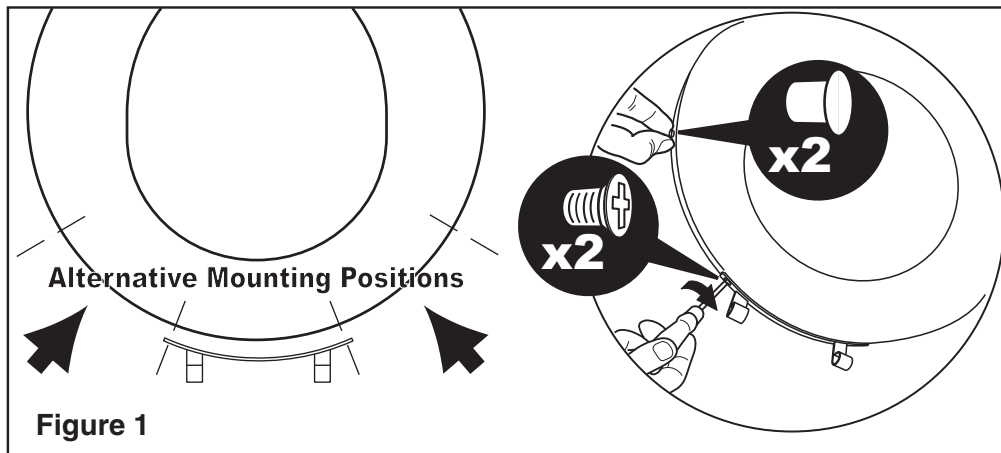

Figure 1
**Line up the hinge** with one of the three alternative mounting positions, insert and tighten the screws and insert blanking plugs into the unused holes. Figure 1